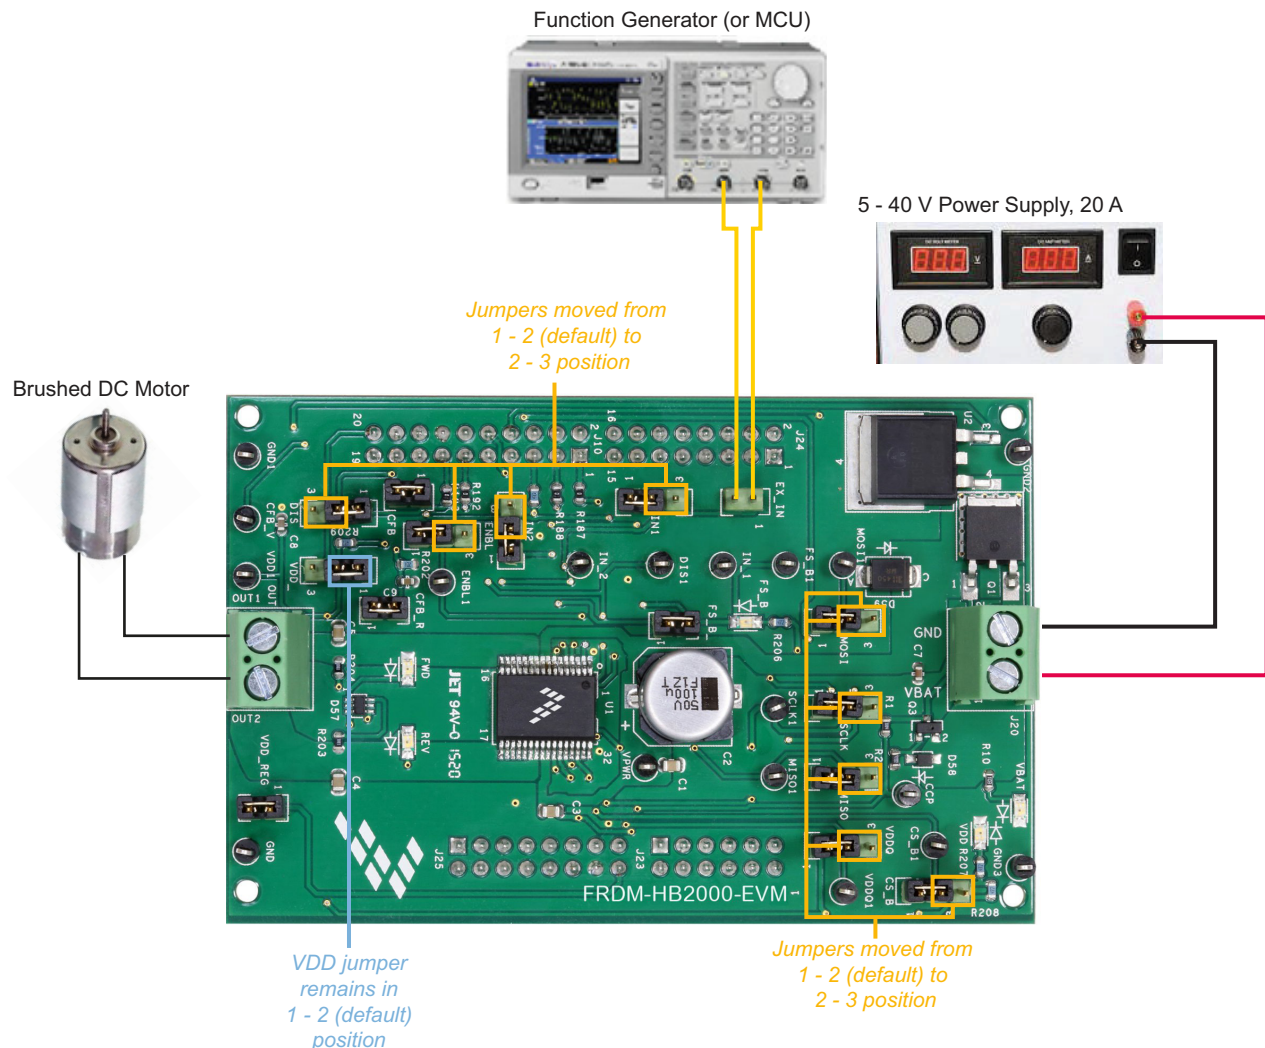

Figure 15. FRDM-HB2000-EVM configured for use with a function generator
2. Change the board jumper connections, as shown in Figure 15.
Figure 15 illustrates the hardware configuration.